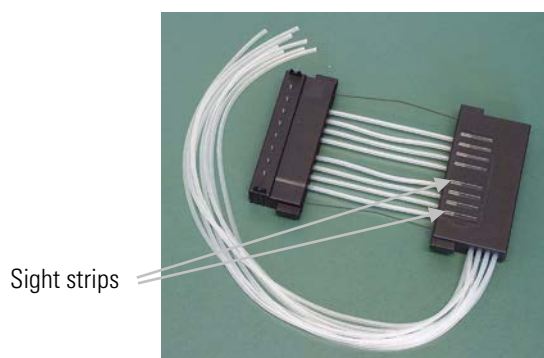

Figure 5-45. Dispensing cassette before calibration
17. Turn the dispensing cassette so that the eight sight strips are visible (Figure 5-45). Look at the eight sight strips in the upper part of the dispensing cassette. You will notice that the tubes are not precalibrated. First open the calibration screw cover. For precalibration of the dispensing cassette, adjust the tube fasteners in the sight strips roughly to the middle using a hexagonal screwdriver (Figure 5-46).